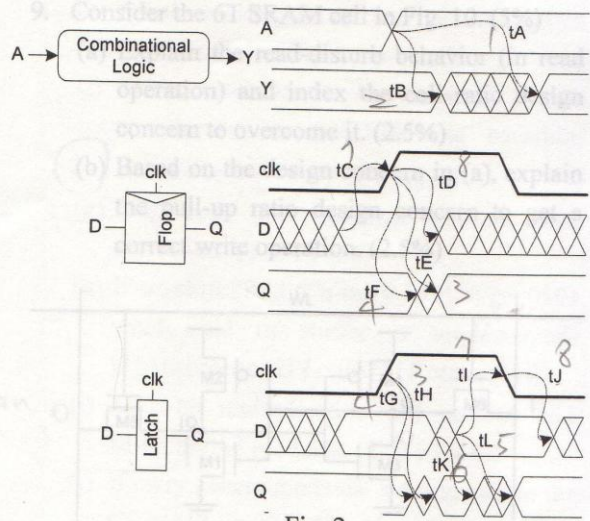

Fig. 2
2. Assign the correct relative timing definition of  $t_A \sim t_L$  in Fig. 2 based on table 1. (12%)